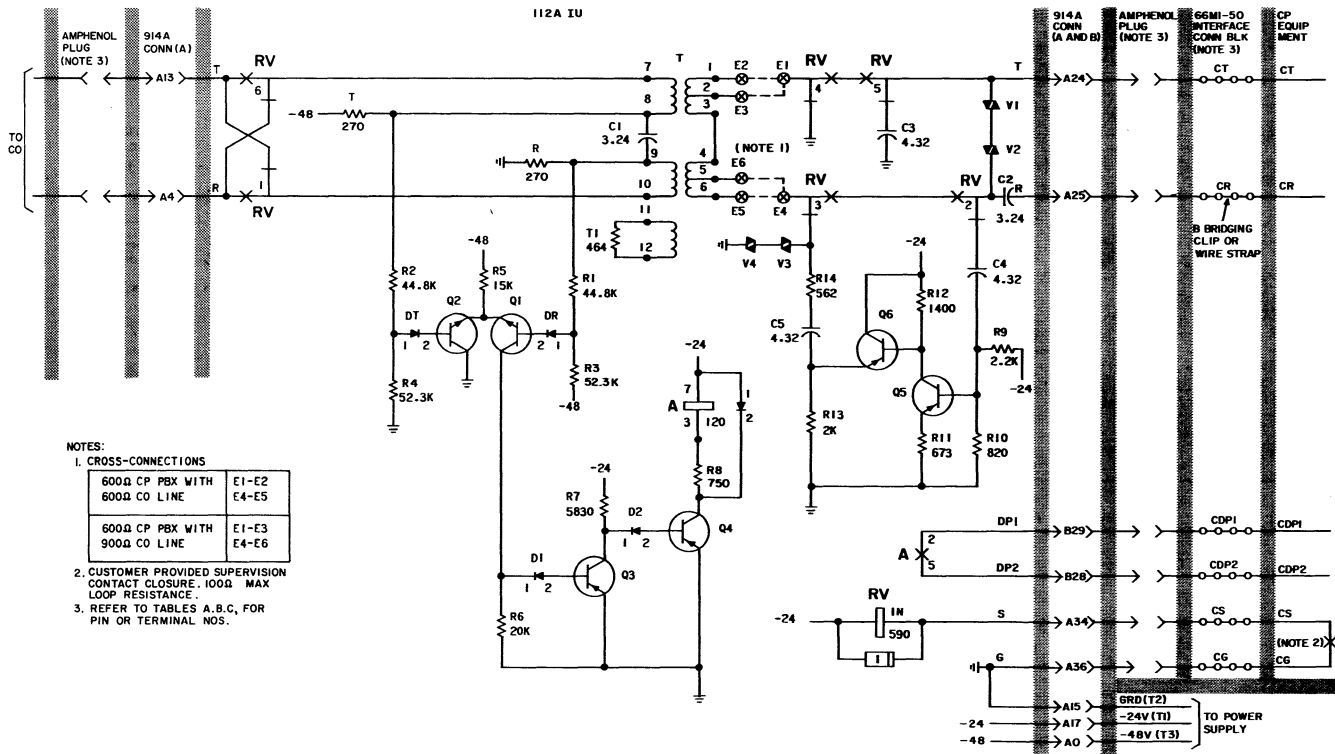

Fig. 7—Schematic of 112A Interconnecting Unit
A. 112A Interconnecting Unit (Fig. 7)
5. MAINTENANCE (Fig. 7)